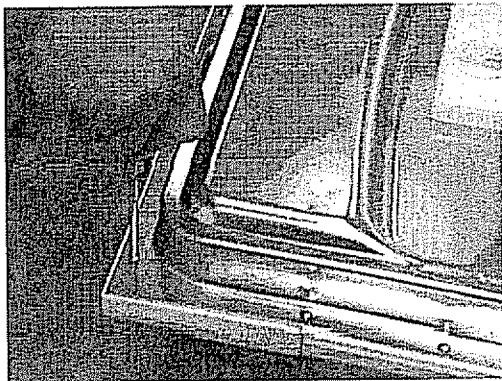
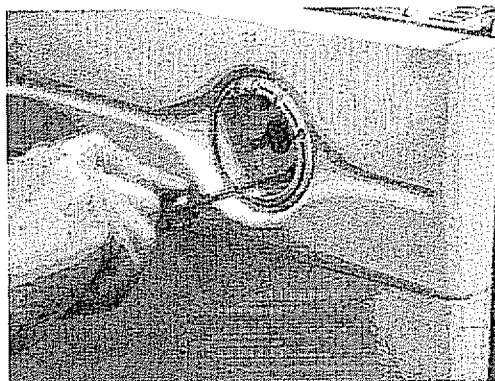

Figure 1
Figure 2
3. Remove the screws which locking the control panel (See figure 1) Remove the knob and unscrew the two screws which locking the timer on the control panel (See Figure 2.)
2. Remove screws securing the control panel to the inner door (See Figure 1)